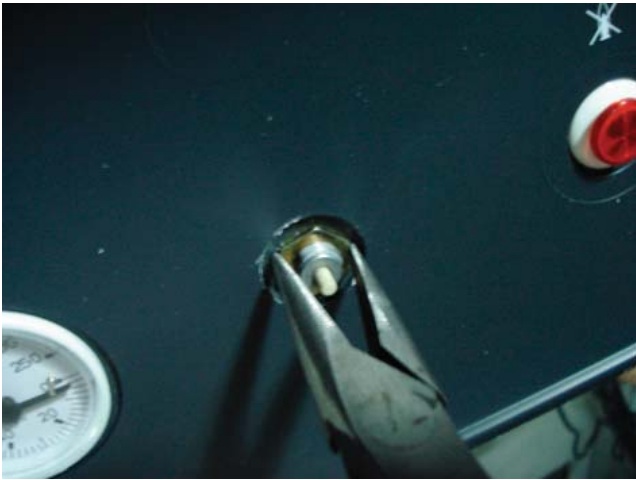

Figure 44
4. Center the reset button in the hole and secure with a locking nut. Use needle nose pliers. See Figure 44.